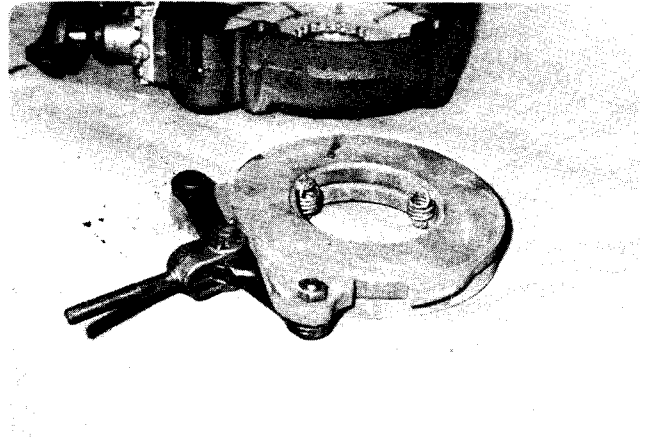

Figure 8
7. Install brake actuator in housing. (Figures 8&9)